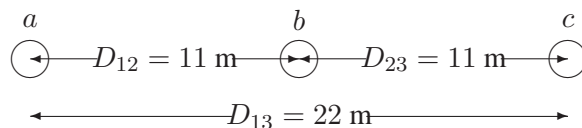
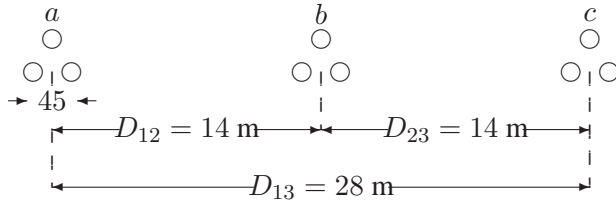

FIGURE 39
FIGURE 40
4.9. A three-phase transposed line is composed of one ACSR 1,431,000 cmil, 47/7 Bobolink conductor per phase with flat horizontal spacing of 11 meters as shown in Figure 39. The conductors have a diameter of 3.625 cm and a *GMR* of 1.439 cm. The line is to be replaced by a three-conductor bundle of ACSR 477,000 cmil, 26/7 Hawk conductors having the same cross-sectional area of aluminum as the single-conductor line. The conductors have a diameter of 2.1793 cm and a *GMR* of 0.8839 cm. The new line will also have a flat horizontal configuration, but it is to be operated at a higher voltage and therefore the phase spacing is increased to 14 m as measured from the center of the bundles as shown in Figure 40. The spacing between the conductors in the bundle is 45 cm. Determine